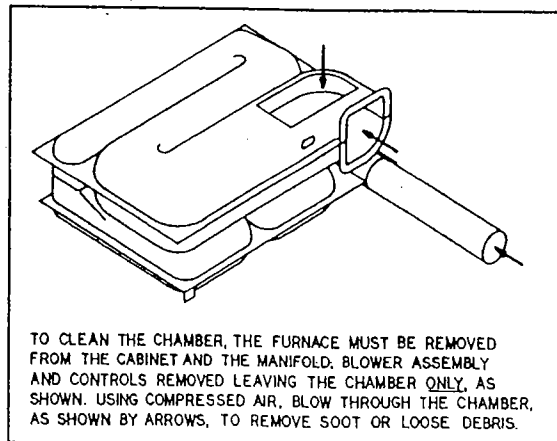

Figure 3
5. Inspect combustion chamber for restrictions in exhaust or intake. It is imperative that the flow of intake combustion air and the flow of exhaust gases being expelled to the outside atmosphere not be obstructed. Any soot or loose debris should be blown out using compressed air. (See Figure 3.)